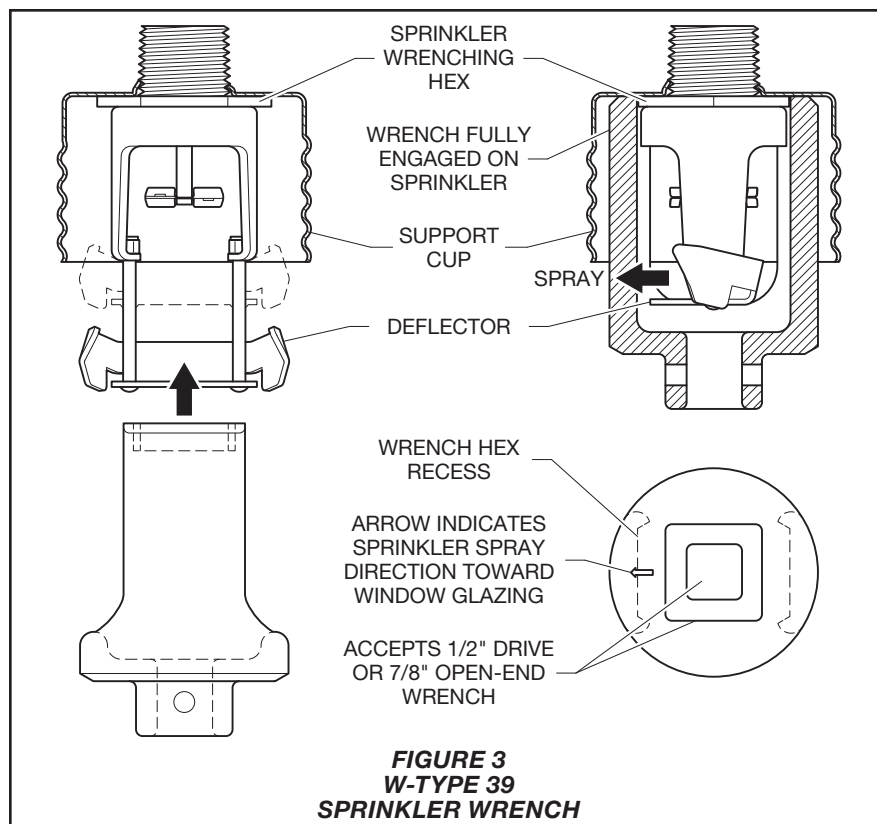

FIGURE 3
Step 3. With pipe thread sealant applied to the pipe threads, and using the W-Type 39 Wrench, as shown in Figure 3, install and tighten the Sprinkler/Support Cup Assembly into the fitting. The W-Type 39 Wrench will accept a 1/2 in. ratchet drive.